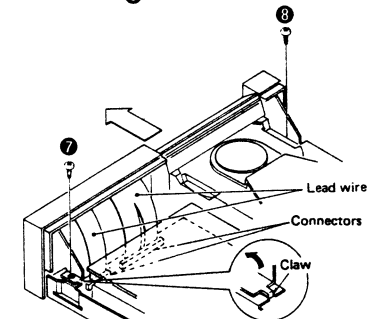

Fig. 2
3. Remove the 2 setscrews [Fig. 2 : ⑦, ⑧] of the front panel fitting, and release the 2 claws.